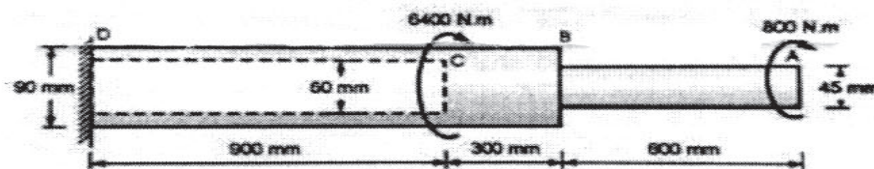

Figure 5
- Q3) a)** Figure 5 shows a horizontal shaft ABCD fixed to a rigid base at D and subjected to torques. A hole 60 mm in diameter has been drilled into the part CD of the shaft. Determine the angle of twist at the end A. Take $G = 7.7 \times 10^4 \text{ MPa}$. [9]